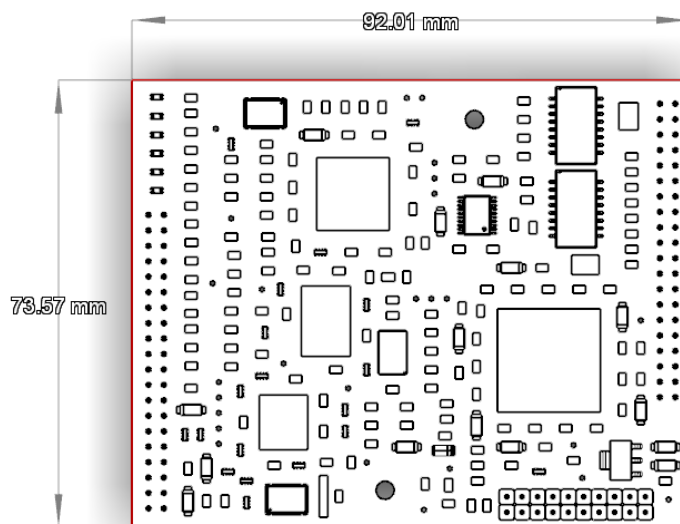

Figure 1. Card dimensions
- Mechanical format: PCB board of 92 x 74 mm (see Figure 1) with two 40-pin connectors each one.